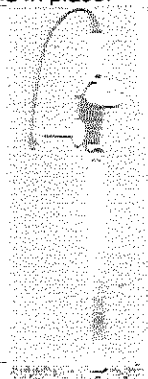

Figure 2
- To obtain trouble free trimming, it is necessary to remove gum that collects on the blades. This is best done by keeping trimmer in storage sheath filled with a mixture of 1/2 kerosene and 1/2 machine oil, after each cutting. (Fig. 2) Blades must be clean before they can be adjusted.